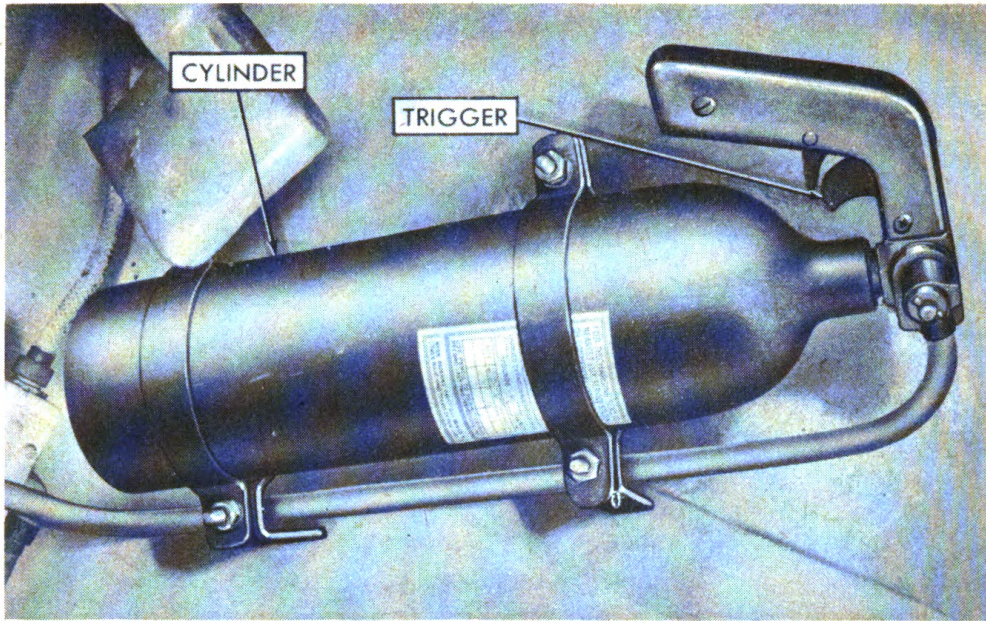

Figure 18—CO₂ extinguisher for muzzle fires.
f. Trigger of CO₂ fire extinguisher for muzzle fires (fig. 18). This trigger is located to the right of gunner on turret wall. It releases CO₂ to extinguish fires which may occur at flame gun muzzle. To operate, pull trigger briefly after each flame burst or shot, or after each series of rapid fire bursts. To stop operation, release trigger.